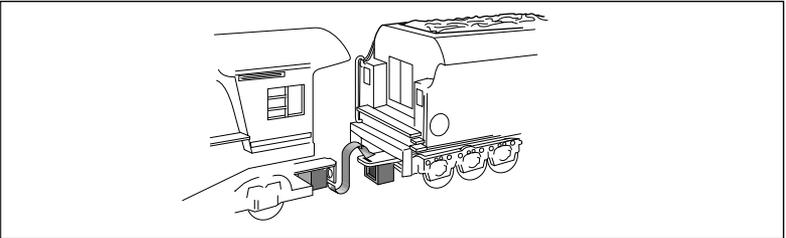

Figure 1. Drawbar connection
- **With track power OFF**, connect the drawbar between locomotive and tender as illustrated in Figure 1. That's all you have to do with Lionel's Wireless Tether, an infrared communication system that eliminates the plugs and wires of the past.